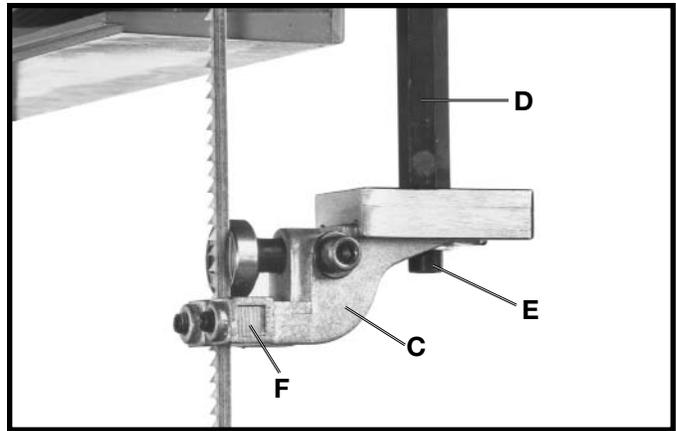

Fig. 22
2. The upper guide bracket (C) Fig. 22, is assembled to the lower end of the guide post (D) by screw (E). Loosen screw (E) and move the guide bracket (C) in or out until the front edge of the guides (F) are just behind the blade "gullets" (bottom of saw teeth) while making sure the guides are flat with the blade then tighten screw (E).